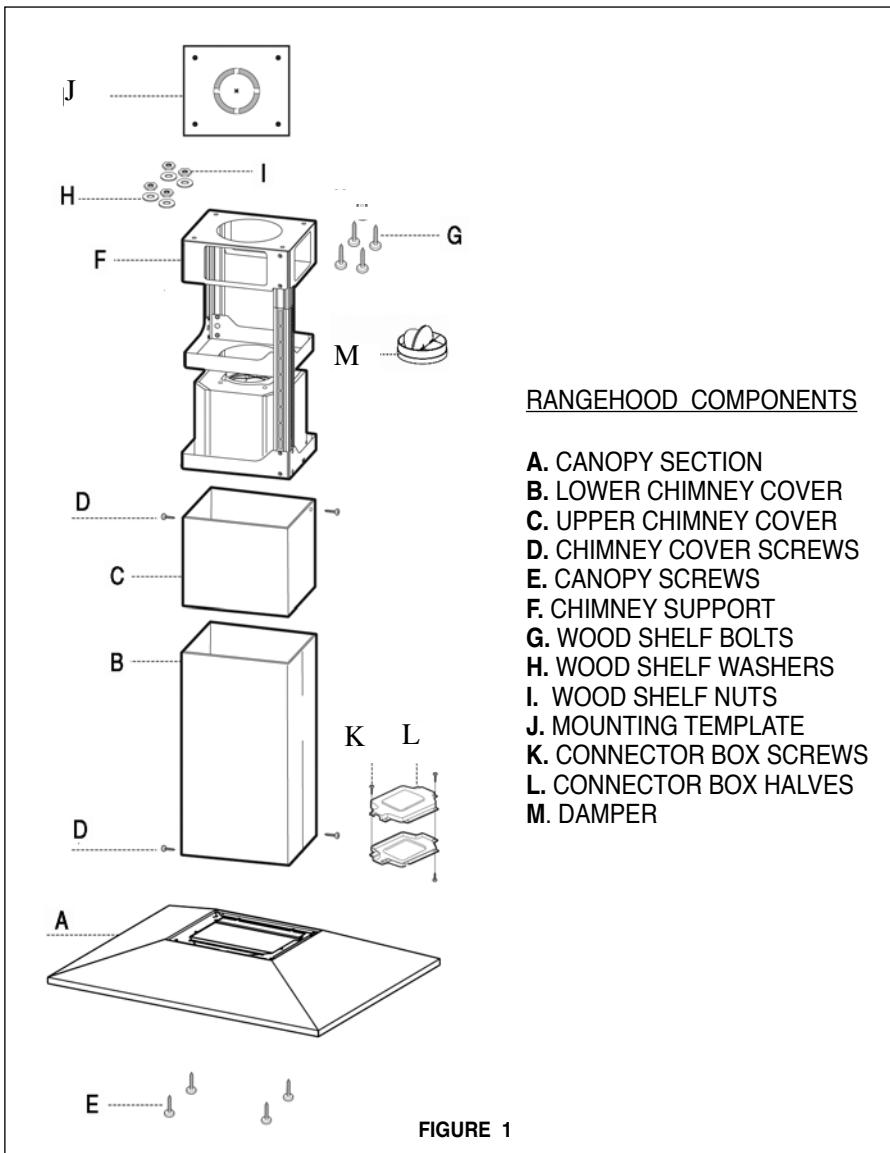

FIGURE 1
For safe packaging, the entire chimney section of the hood is shipped assembled. It must be disassembled completely for installation. Disassemble packaged chimney components by sliding apart the chimney covers (**B** and **C** in FIGURE 1). Remove the LOWER CHIMNEY COVER (**B**) from the CHIMNEY SUPPORT (**F**) by removing the 2 philips screws on the outside bottom of the chimney cover. Remove the UPPER CHIMNEY COVER (**C**) from the CHIMNEY SUPPORT (**F**) by removing the 2 philips screws on the outside top of the chimney cover.
The rangehood attaches to the ceiling by a metal support structure (**D** in FIGURE 1). This support must be attached to the ceiling before the canopy is attached. This structure must be firmly attached to the ceiling.
**FOR WOOD SHELVES:** Use items **G**, **H**, & **I** in FIGURE 1.